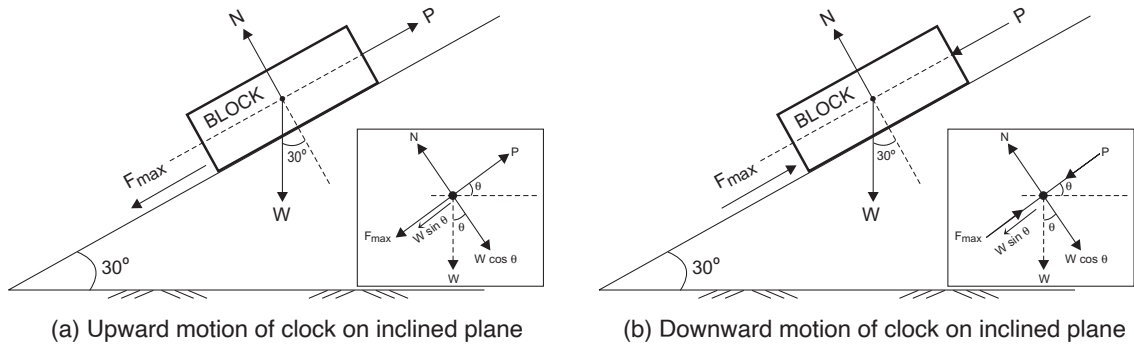

Fig. 3.11
(A) Block motion (move) upward on inclined plane surface : [fig. 3.11(a)]
(B) Block motion (move) downward on inclined plane surface : [fig. 3.11(b)]